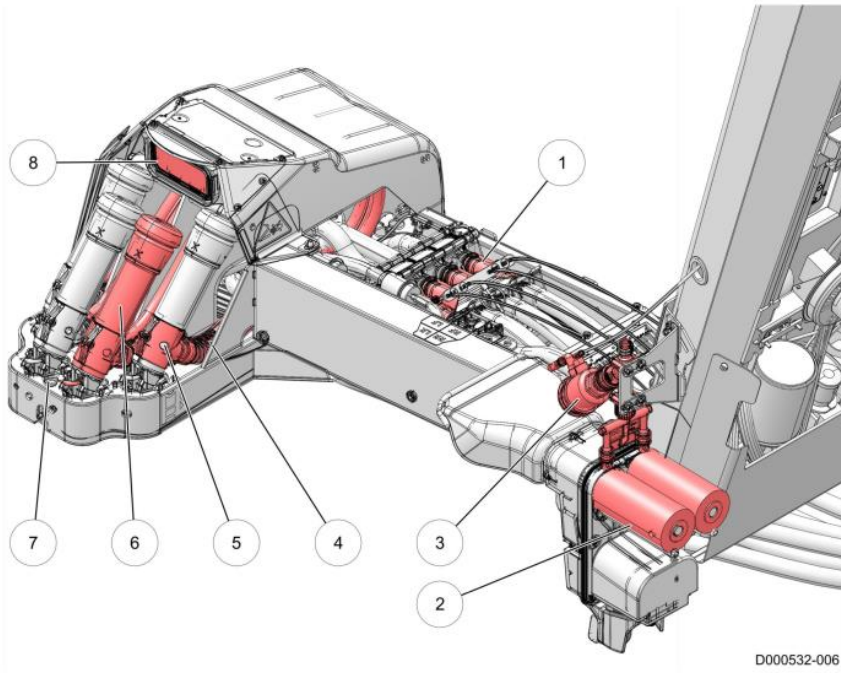

Figure 7. Lower arm
2. Refer to figure 7 for the location of the Twin Tubes
2. Refer to figure 7 for the location of the brush hood
2. Refer to figure 7 for the location of the laser